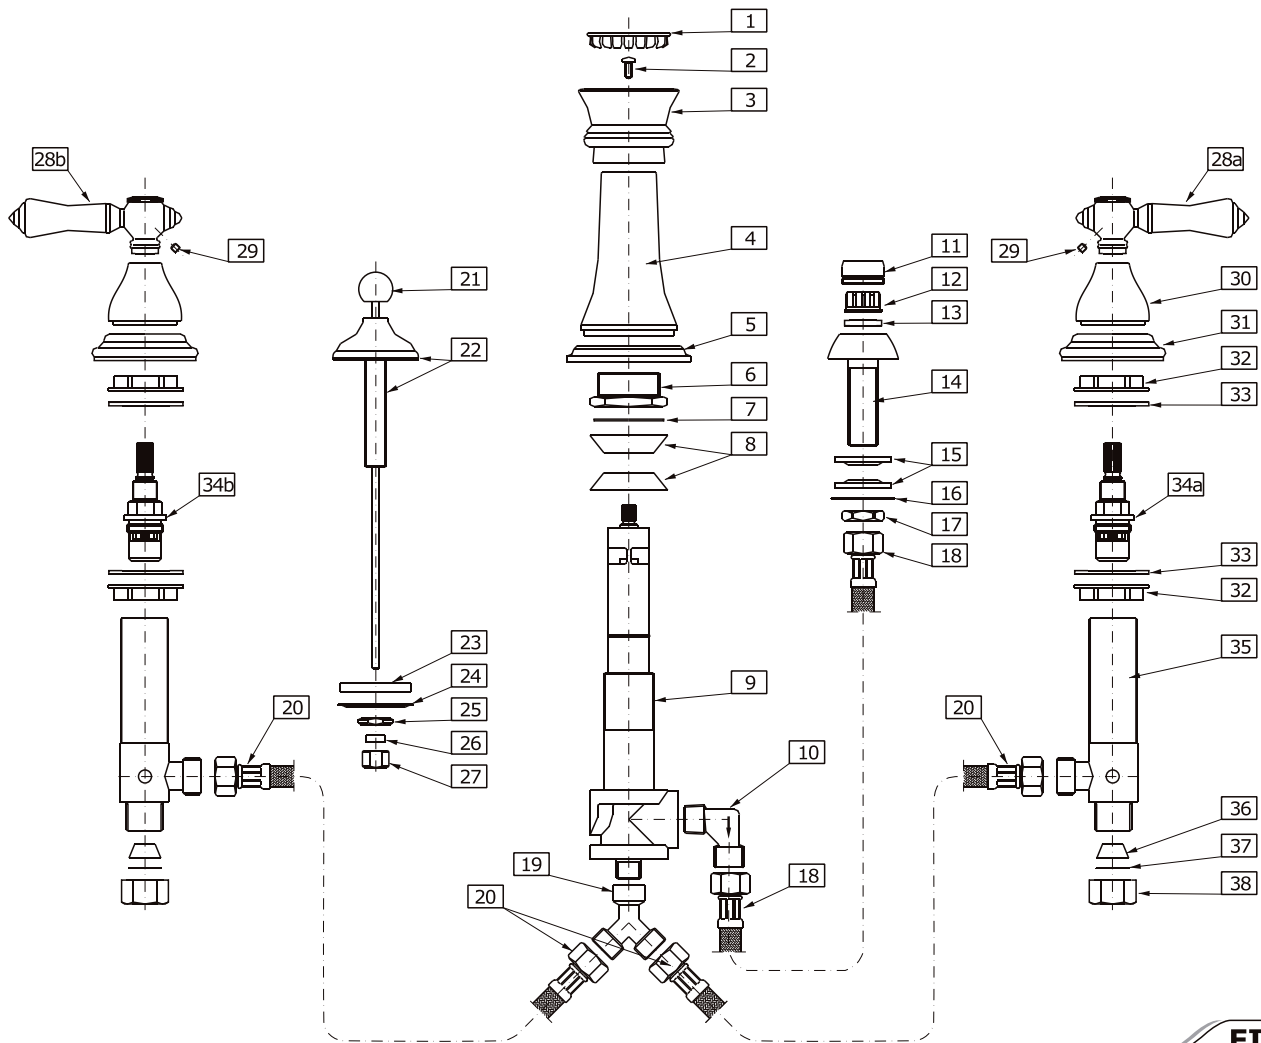

FIG. 1
- ➔ Spin the bottom valve mounting nuts (32) all the way down the valve and remove the top nut and washers. Insert valve (35) up through the hole in the deck, then drop on the washer (33) and the top mounting nut.
- ➔ Connect hose (20 fig.1) to the outlet connection of the valve. The other end of the hose should be connected to T-connection (19 fig.1) after spout installation.
- ➔ Remount handle pieces: First handle base (31). Position base over side hole of mounting surface¹⁾. Second screw shroud (30) onto valve until against base. Do not overtighten.
- ➔ Insert LEFT handle (28b fig.1) on the RED marked valve and RIGHT handle (28a fig.1) on the BLUE marked valve.
- NOTE:** In case of faucet with cross handles you should turn cross handles to the left (anticlockwise). Make sure the LEFT cross handle marked (H) is on the RED marked valve and the RIGHT cross handle marked (C) is on the BLUE marked valve.
- ➔ Attach handles with hex socket screws (29). Use provided hex key.